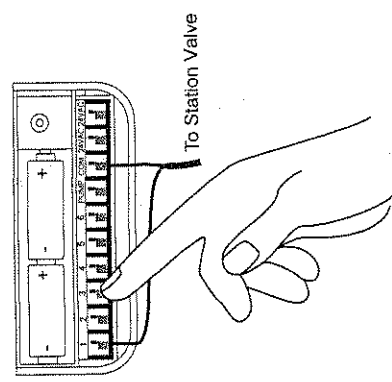

**FIGURE 23: Connecting Controller Wires to Valves**
- Each valve has two wires. One wire is to be connected as the common. The common wires for all the valves can be connected together to one common wire going to the controller. The other valve wire is to be connected to the specific station wire that will control that valve [See Figure 23].